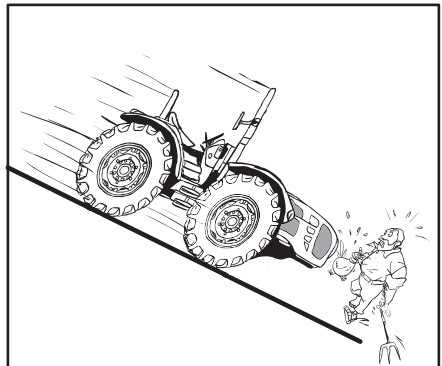

Fig. 2.24
- Keep the gear engaged. Never drive downhill with the clutch disengaged or the gear in neutral (Fig. 2.24).